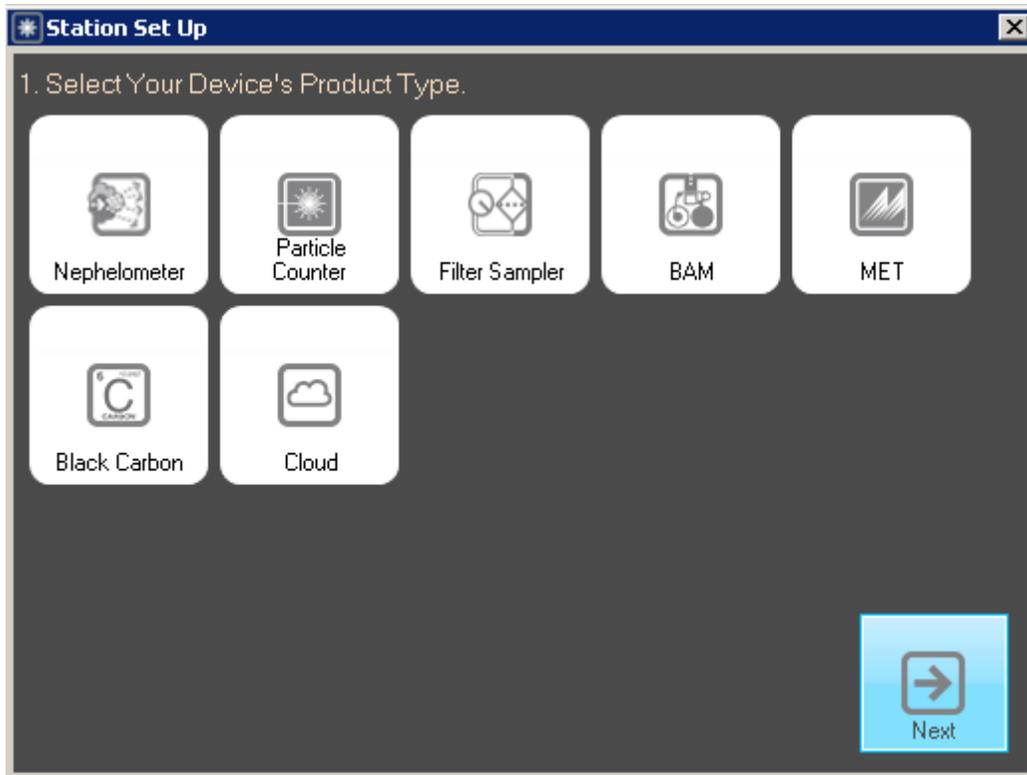

Figure 9-1: Comet station setup screen
1. Select **Add New Station**. You should see the station setup screen shown in Figure 9-1.